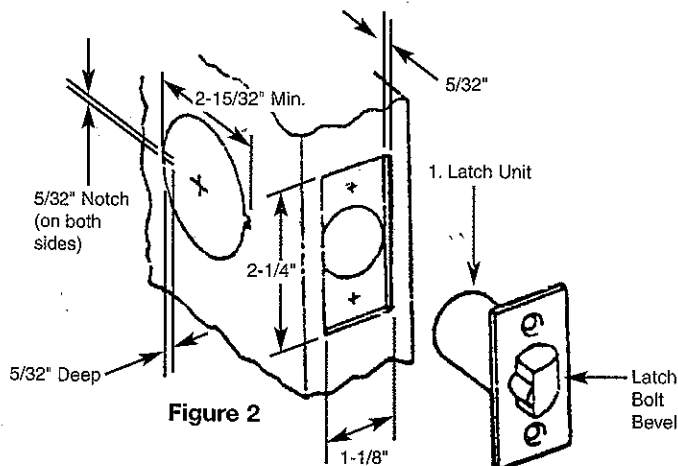

Figure 2
1. Place paper template (supplied) on door and mark for holes. Drill the 2-1/8" crossbore hole and then the 1" hole. Put in notches on 2-1/8" crossbore hole. Drill two 7/16" holes. Refer to figure 2.
2. Mortise latch unit front 5/32" into door edge to dimensions shown in Figure 2. Insert latch unit (1) into 1" hole making certain latch bolt bevel faces direction of closing door.
- 2** Use the center punch to mark the door with the necessary drilling locations. Use a hammer to strike the center punch to leave a good mark. Punch both the cross-bore on the face of the door and the latch hole on the edge of the door. Be sure to mark the correct position on the door edge relative to the thickness of the door. FIG 2